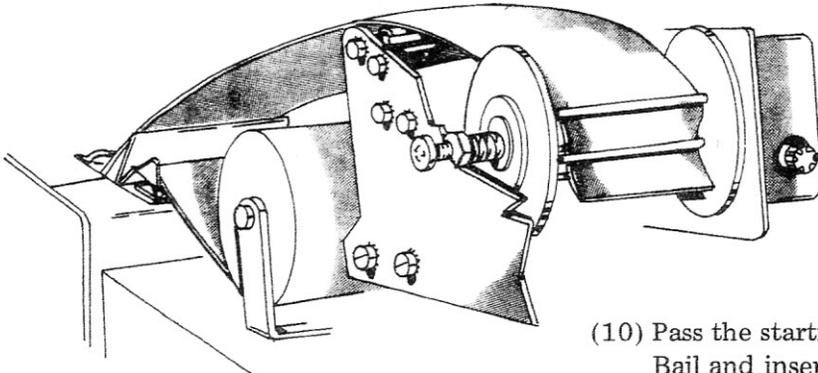

Figure 3-3. Paperwinder Threading Diagram
If a Paperwinder assembly is being used, leave the Power Switches in the OFF position and complete the threading procedure described below. Refer to Figure 3-3.
- (10) Pass the starting edge of the paper over the Paperwinder Bail and insert it between any two rods on the Take-up Reel, as shown in Figure 3-3.
- (11) Turn the Paperwinder Power ON/OFF Switch to the ON position. (The Paperwinder Reel will be begin to rotate, taking up any slack in the paper.)